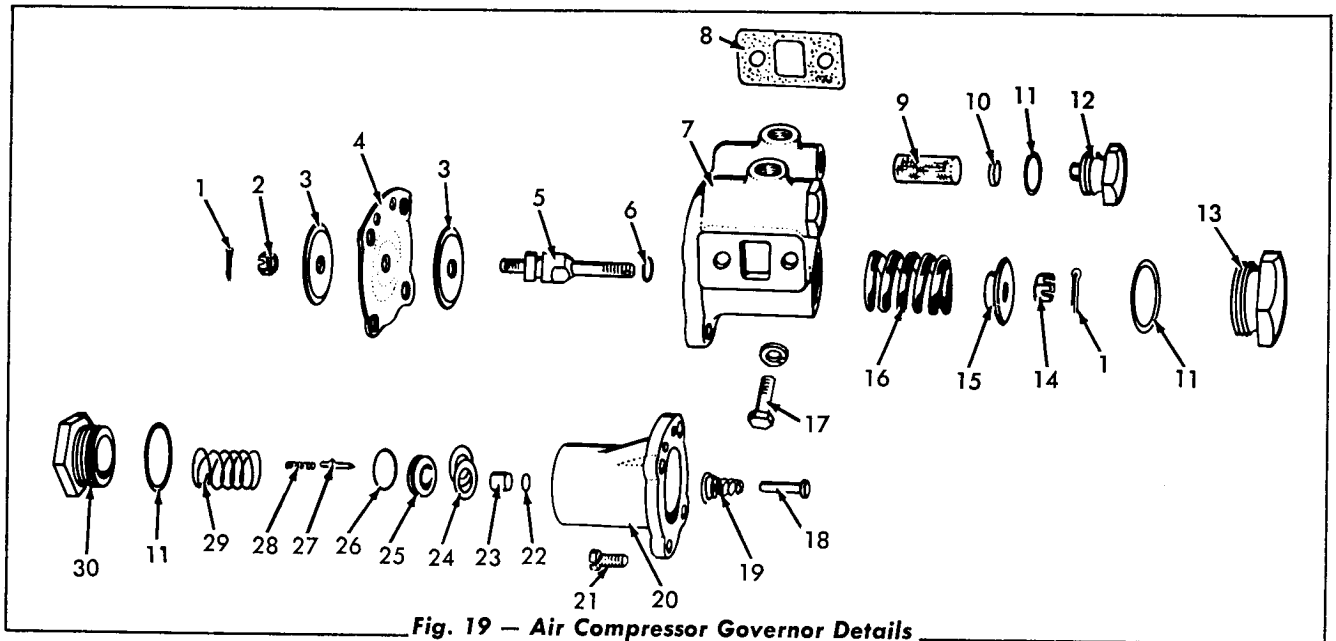

Fig. 19 — Air Compressor Governor Details
2. Remove the two filter caps (Fig. 19) with the sealing rings (located at the bottom of the governor). Remove the rubber washer and the filters from the counterbores in the bottom of the spring cage.
1. Install a new grommet in the groove in the exhaust stem bore of the valve body. (Fig. 19).
3. Observe the air pressure gauge on the instrument panel at the time that air begins to escape from the spring cage. If the gauge registers 120 to 125 pounds, the governor is properly adjusted. If the pressure gauge reading is below 120 pounds, turn the adjusting nut (Fig. 19) clockwise; if the reading is above 125 pounds, turn the adjustment nut counterclockwise until the proper adjustment is obtained.